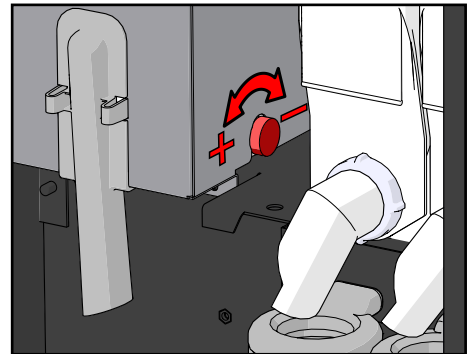

Figure 14.
8. Adjust the grind adjustment wheel counter clockwise for coarser grind, clockwise for finer grind (see Figure 14).